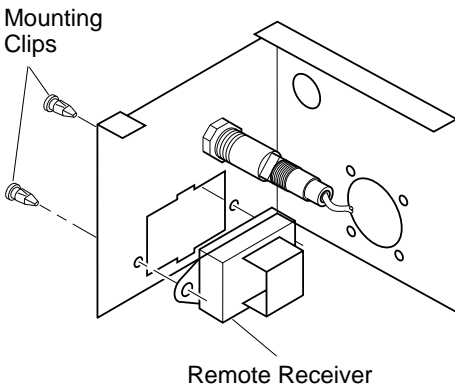

Figure 33 - Installing Remote Receiver
5. Push clips firmly into place (see Figure 33).